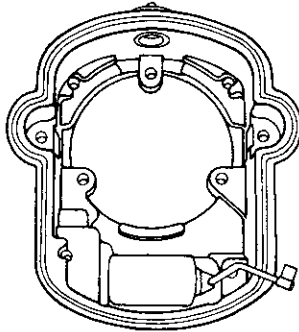

Figure 7.11
- A. Assemble the condenser into the distributor housing, being sure to rotate the condenser wire the same rotation as the condenser is tightened in the housing. (See Figure 7.11).